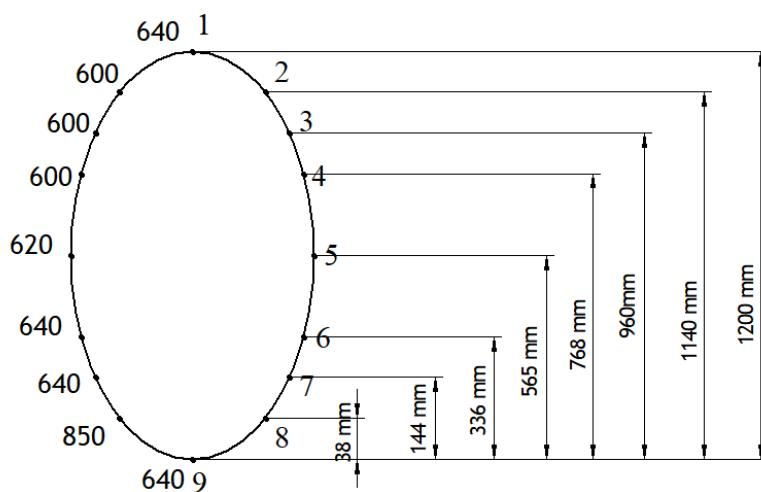

Figure 7a
- 7 a) The fuselage section shown in figure 7a is subjected to a bending moment of 100 kNm applied in the vertical plane of symmetry, if the section is idealized determine the direct stress in each point.